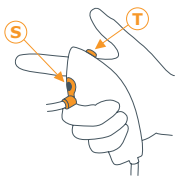

Figure 2:
- 6 Hold Ventrain® in the equilibration position as shown in Figure 2: no oxygen is flowing into the lungs and almost no gas is sucked out.
- 12 Make sure the chest is able to make excursions upwards and downwards. Adjust inspiration and expiration times based on closely observation of the chest excursions of the patient. Ensure inspiration and expiration volumes are in balance. In case of any doubt regarding lung pressure, use the equilibration position, as shown in Figure 2, for at least 5 seconds.